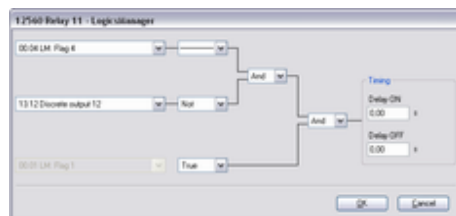

Fig. 211: LogicsManager function "Relay 11"
1. Configure the LogicsManager function "Relay 11" as shown in (Fig. 211).